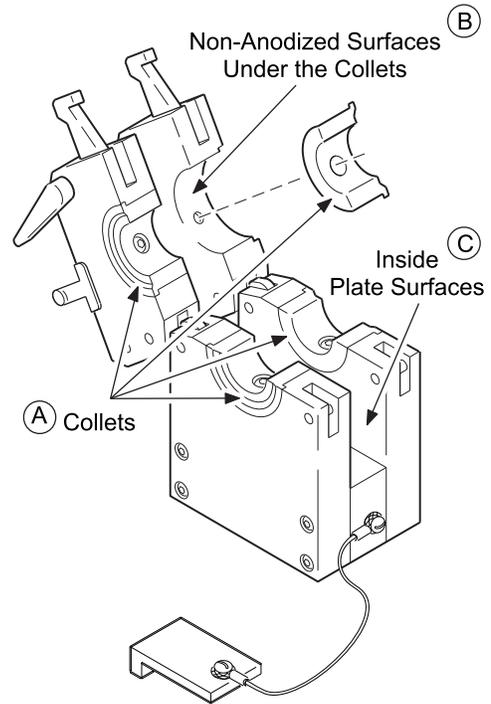

Figure 22 Cleaning the Collets and Collet Mounting Surfaces
1. Inspect the fixture block for cleanliness, wear and damage. See Figure 22.
1. Inspect and clean the collets. See Figure 22 (A).
4. Remove any oxides from the non-anodized mating surfaces of the side plates with a fine-grit abrasive pad. See Figure 22(B).
5. Remove any dirt and oxides from the inside surfaces of the side plates with a clean, soft cloth. See Figure 22(C). Remove heavier deposits with a fine-grit abrasive pad.